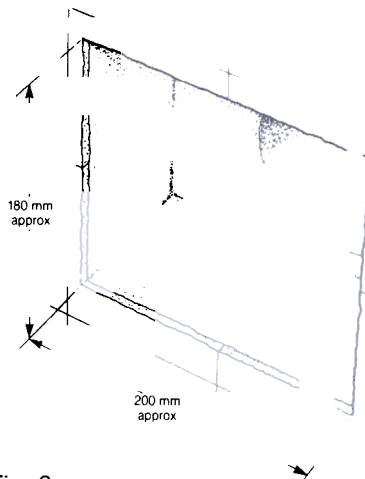

Fig. 6
6.2 Make an opening in the wall large enough to fit the case and backplate and to take the exhaust to the outside wall. Allow about 10 mm clearance all round the casing and pipe (see Fig. 6).